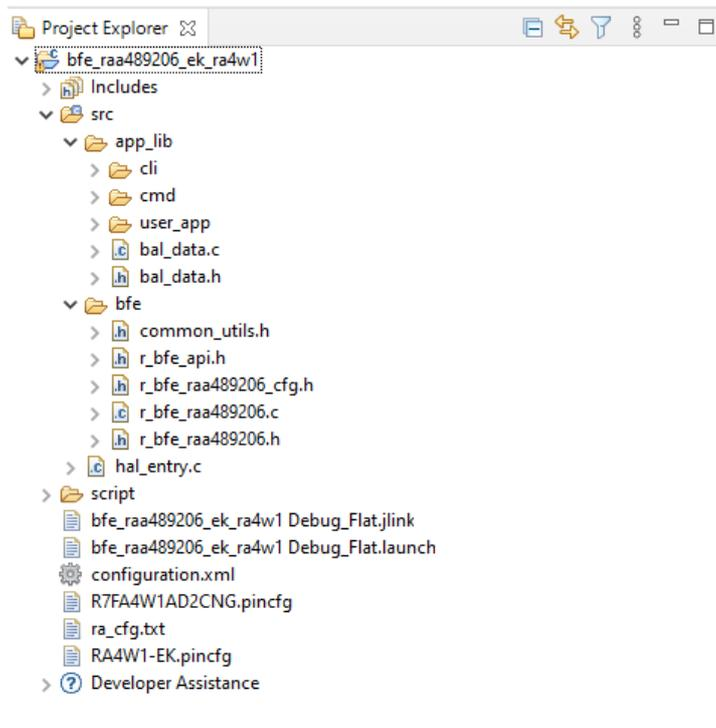

Figure 6. Structure of the Sample Project
7. The project is now imported into the e2 studio workspace. Figure 6 shows the imported project structure